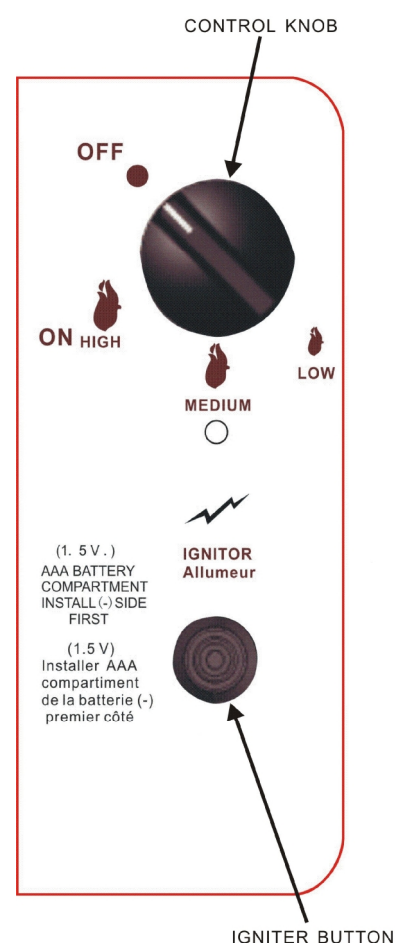

Figure 10
1. Open the tank drawer and find the control panel on the left. Make sure the control knob is in the "OFF" position. See Figure 10. Open the tank valve all the way.
2. Push in the igniter button. You will hear a slight clicking sound. With the igniter button pushed in, push and turn the control knob to the "ON" position. The fire should light within a few seconds. Once the flame is lit, release the igniter button and continue to hold the control knob in for 10 to 15 seconds. Release the control knob. The control knob should pop back out and then the fire remains lit. Note: If the fire does not light, turn the knob to the "OFF" position and wait five (5) minutes before trying again.